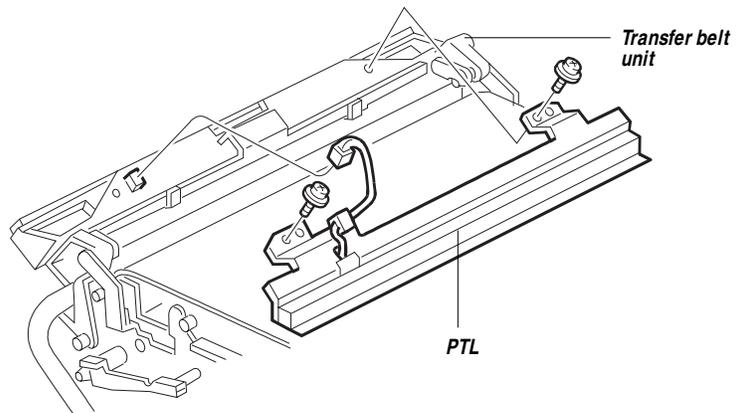

Figure 2-21 Installing the PTL
3. **Replace the PTL on the transfer belt unit with the PTL provided in this kit (see Figure 2-21).**